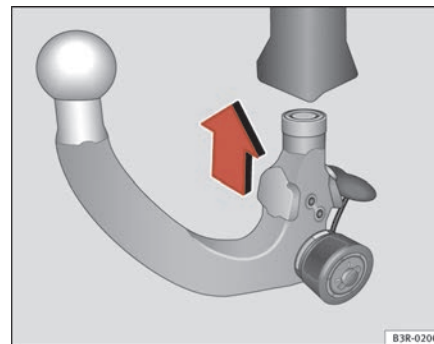

Fig. 153 Removable towing bracket: inserting the ball joint
- With the spring mechanism in the ready position, insert the ball joint into the mounting fixture and push it upwards ⇒ page 191, fig. 153 in the direction indicated (arrow) ⇒ ⚠. It should lock into position automatically. You should now clearly hear it click into place.